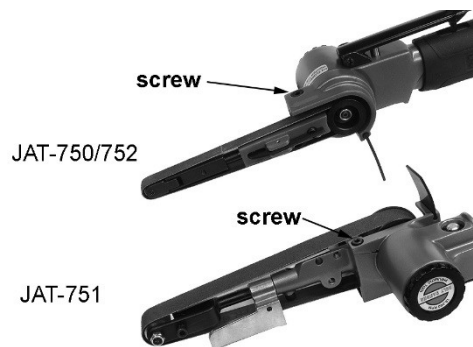

Figure 1
1. Adjust arm to desired angle and tighten hex socket cap screw (Figure 1), with supplied hex wrench. Make sure arm assembly is fitted closely to housing shoulder.
2. Loosen hex cap screw (see Figure 1), turn head 90-degrees to the handle, and tighten screw to lock.
2. Loosen hex cap screw (See Figure 1), turn arm 90-degrees to the handle, and tighten screw to lock.